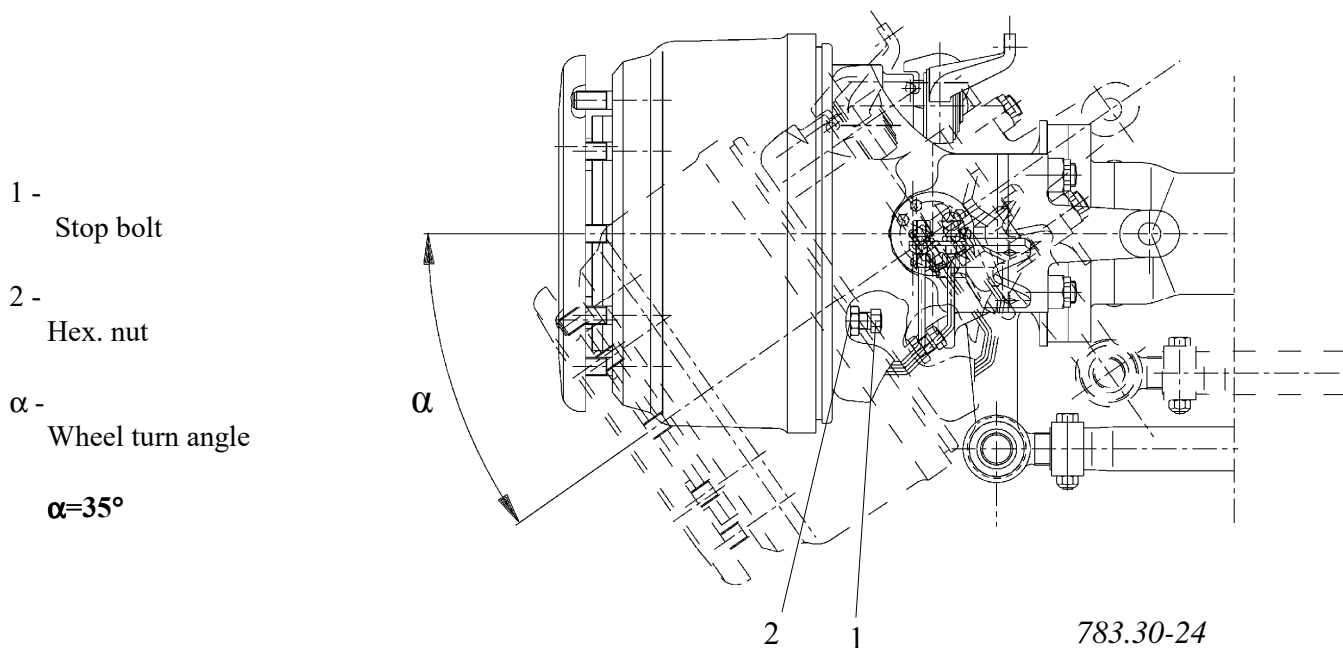

Fig. 3.: ADJUSTING THE INNER MAX. WHEEL TURN ANGLE
Upon reaching the max. inner wheel turn angle ($\alpha=35^\circ$) specified in, adjust the stop bolt (1) to bottom out against the axle body (Fig. 3.).